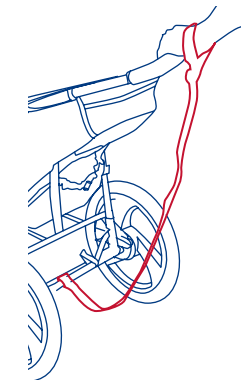
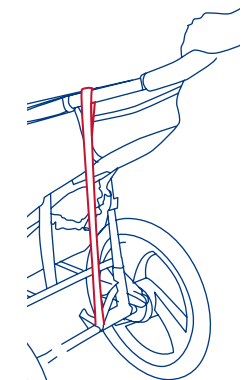

Fig. 17a
Fig. 17b
• **SAFETY WRIST STRAP:** Always connect the safety strap to either wrist when jogging. This strap will keep the stroller from rolling away in the event that you trip while running (Fig. 17a). The safety strap must remain connected to the rear lower frame cross member at all times. This location is intended to prevent the stroller being tipped backward in the event that you do fall to the ground. The safety strap includes a hook and loop attachment for storage, on the left side of the stroller, when not in use (Fig. 17b).